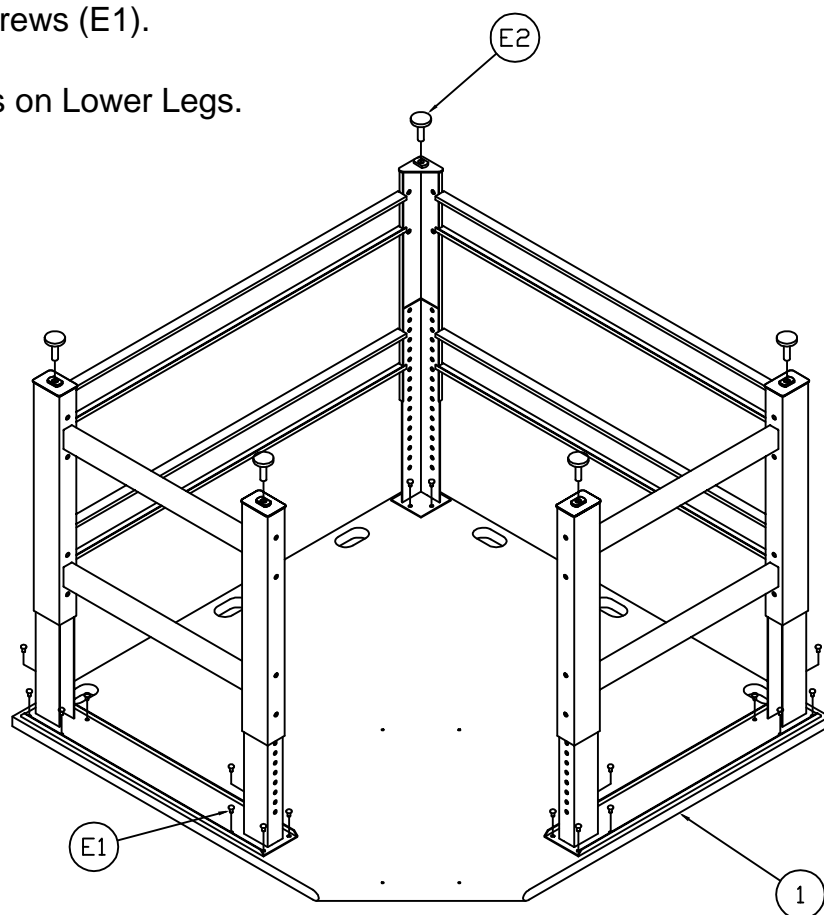

Fig. 4
4. Assemble Corner Upper Leg (5), Corner Lower Leg (6) and Spreaders (2) at the same height as the Leg Assembly (3 & 4) using Screws (E4), Lock Washers (E6) and Nuts (E5). Do not tighten hardware at this time.
5. Place Top (1) upside-down. Place Leg Assembly onto Top. Align holes in Leg Assembly with inserts in Top. See Fig. 4